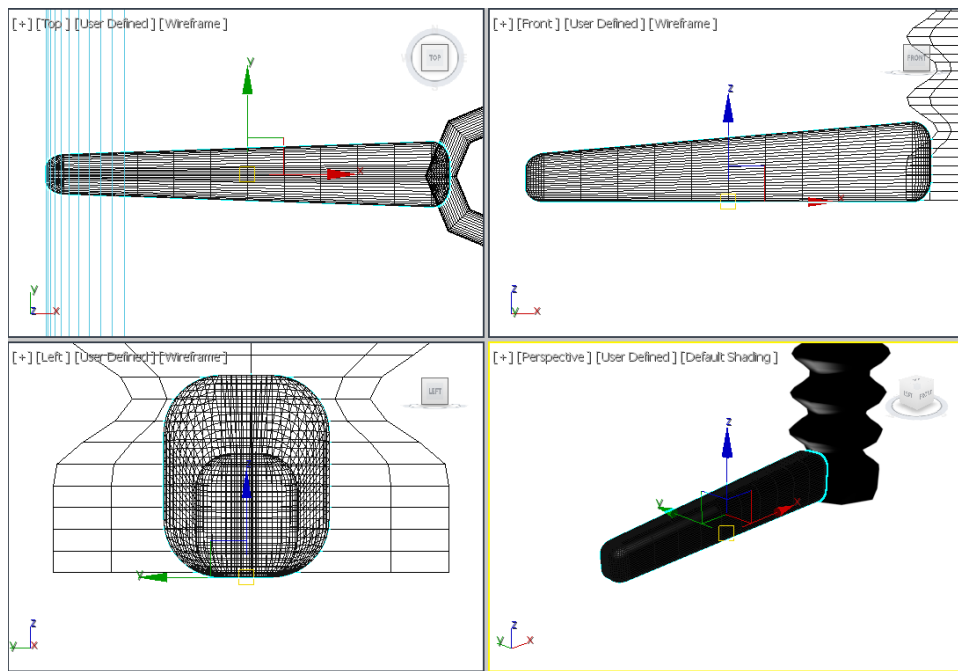

Figure 3-40 The leg01 geometry displayed in viewports after applying the **Taper** modifier
10. After entering the values, leg01 is tapered, as shown in Figure 3-40.